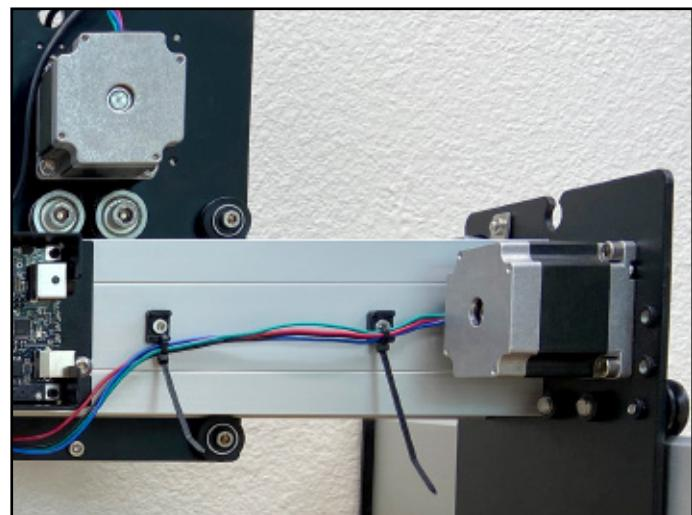

Figure 7-10
4. Use two (2) cable ties to attach the Y1-motor lead cable to the lower attachment points on the remaining two mounts. See Figure 7-10.